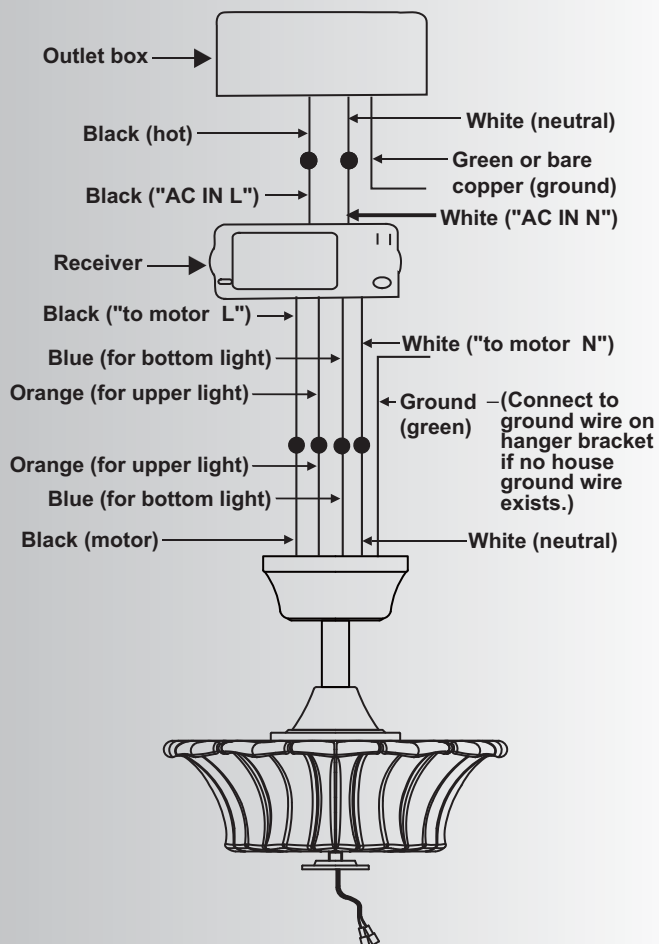

Fig. 14
**Step 2.** Motor to Receiver Electrical Connections: (Fig. 14) Connect the black wire from the fan to the black wire marked "TO MOTOR L" on the receiver.
**Step 3.** (Fig. 14) Receiver to House Supply Wires Electrical Connections: Connect the black (hot) wire from the ceiling to the black wire marked "AC in L" from the receiver. Connect the white (neutral) wire from the ceiling to the white wire marked "AC in N" from the Receiver. Secure the wire connections with the plastic wire nuts provided.
**Step 4.** (Fig. 14) If your outlet box has a ground wire (green or bare copper) connect it to the fan ground wires; otherwise connect the hanging bracket ground wire to the mounting bracket. Secure the wire connection with a plastic nut provided. After connecting the wires, spread them apart so that the green and white wires are on one side of the outlet box and black, orange and blue wires are on the other side. Carefully tuck the wire connections up into the outlet box.